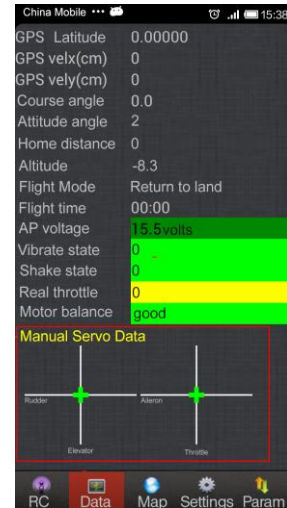

Figure 18
- In the diagram below showing “Manual Servo Data” in the data interface, the left stick is rotor and elevator and the right is aileron and throttle, as shown in Figure 18.